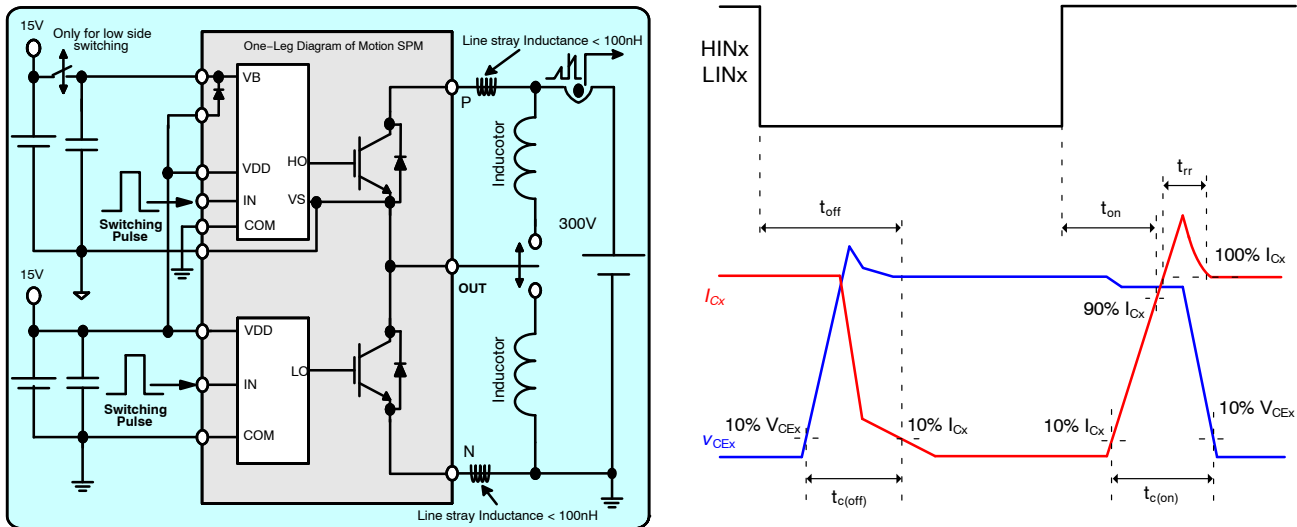

Figure 8. Switching Evaluation Circuit and Switching Time Definition
5. t_{ON} and t_{OFF} include the propagation delay time of the internal drive IC. $t_{C(ON)}$ and $t_{C(OFF)}$ are the switching time of IGBT itself under the given gate driving condition internally. For the detailed information, please refer to Figure 8.